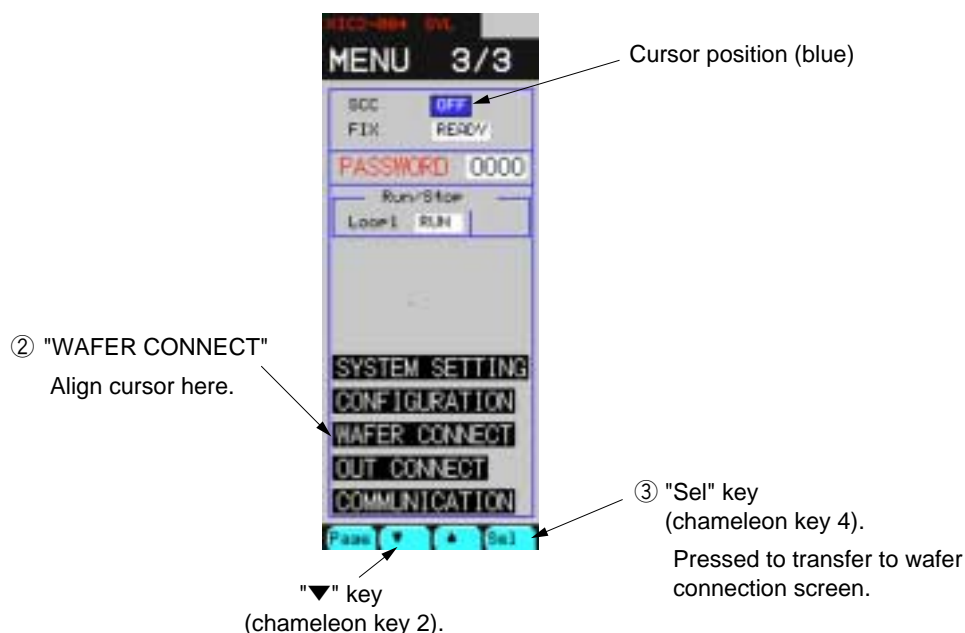

Fig. 4-7 MENU screen
- ① Press the **MENU** key 3 times to display the MENU 3/3 screen (Fig. 4-7).